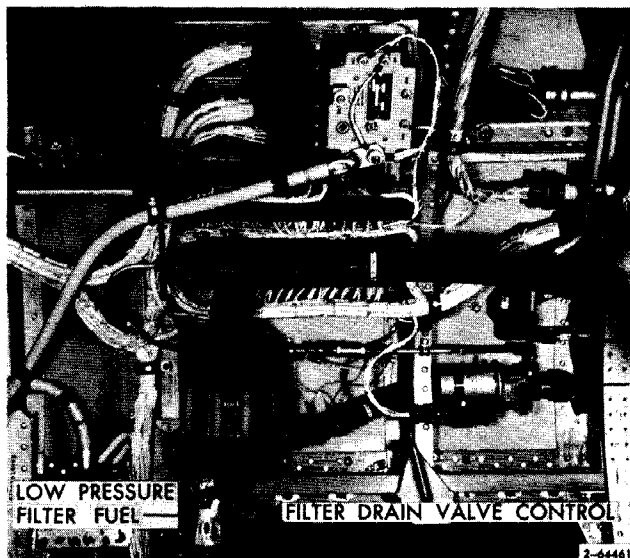

Figure 3-35. Left Side of Plenum Chamber
- d. Place container beneath low pressure fuel filter (figure 3-35).